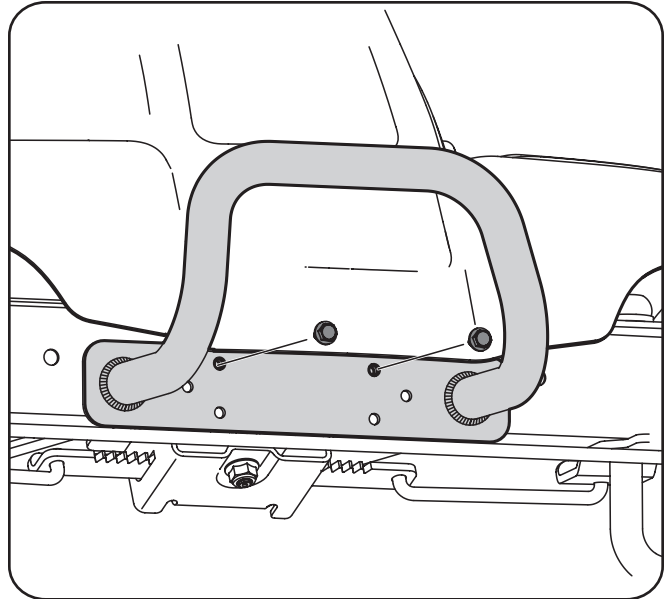

Figure 3-12
1. Remove the two screws as shown in Figure 3-12.
2. Position the bumper over the mounting holes and secure using the hardware removed in Step 1, as shown in Figure 3-12.